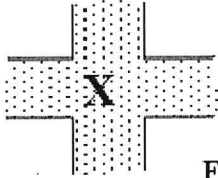

Fig. Q3
- a) Cross section of a casting produced by a student is shown in figure Q3. Upon inspection shrinkage defect was found in the region marked **X**.